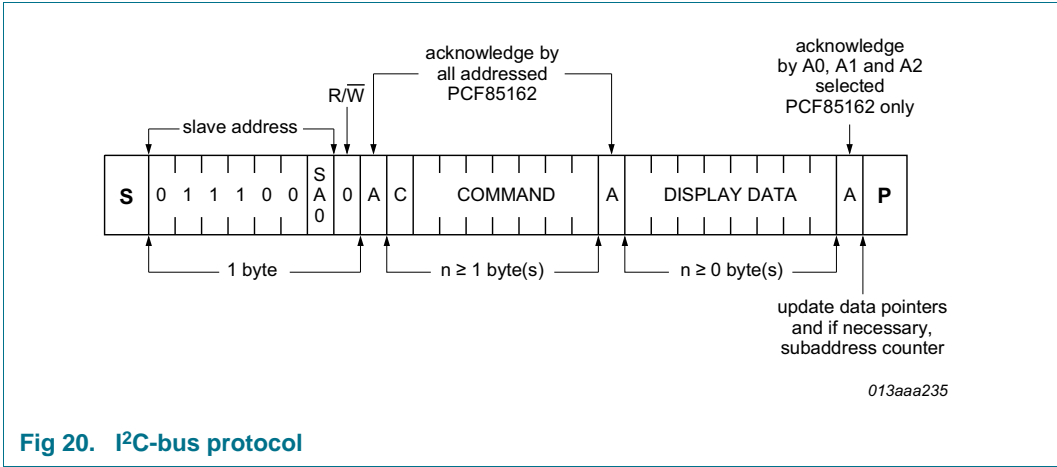

Fig 20. I²C-bus protocol
The I2C-bus protocol is shown in Figure 20. The sequence is initiated with a START condition (S) from the I2C-bus master which is followed by one of the two possible PCF85162 slave addresses available. All PCF85162 whose SA0 inputs correspond to bit 0 of the slave address respond by asserting an acknowledge in parallel. This I2C-bus transfer is ignored by all PCF85162 whose SA0 inputs are set to the alternative level.